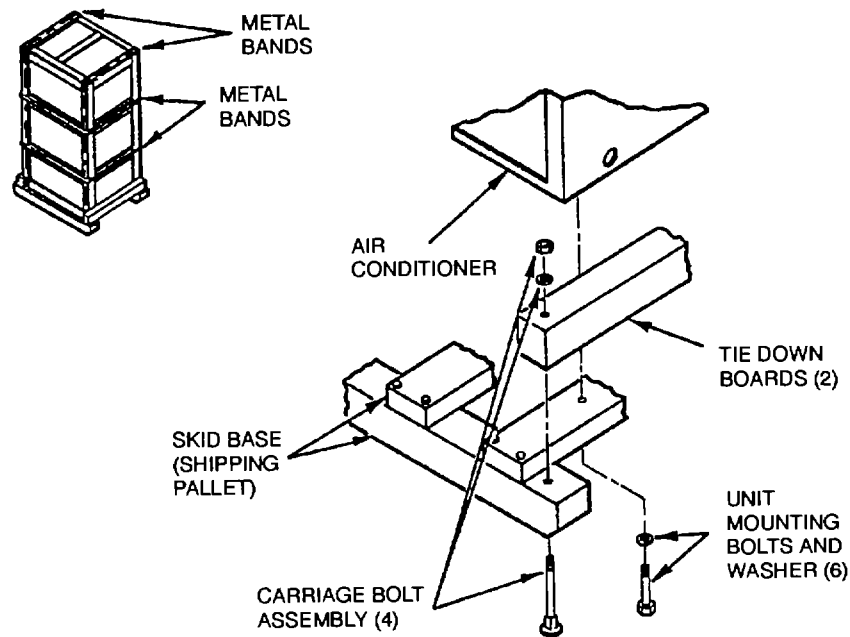

Figure 4-1. Typical Crated Air Conditioner
4.5 UNLOADING. The air conditioner is packaged in a container designed for shipment and handling with the cabinet in an upright position. The base of the container is constructed as a shipping pallet with provisions for the insertion of the tongs of a fork on material handling equipment (see fig 4-1).